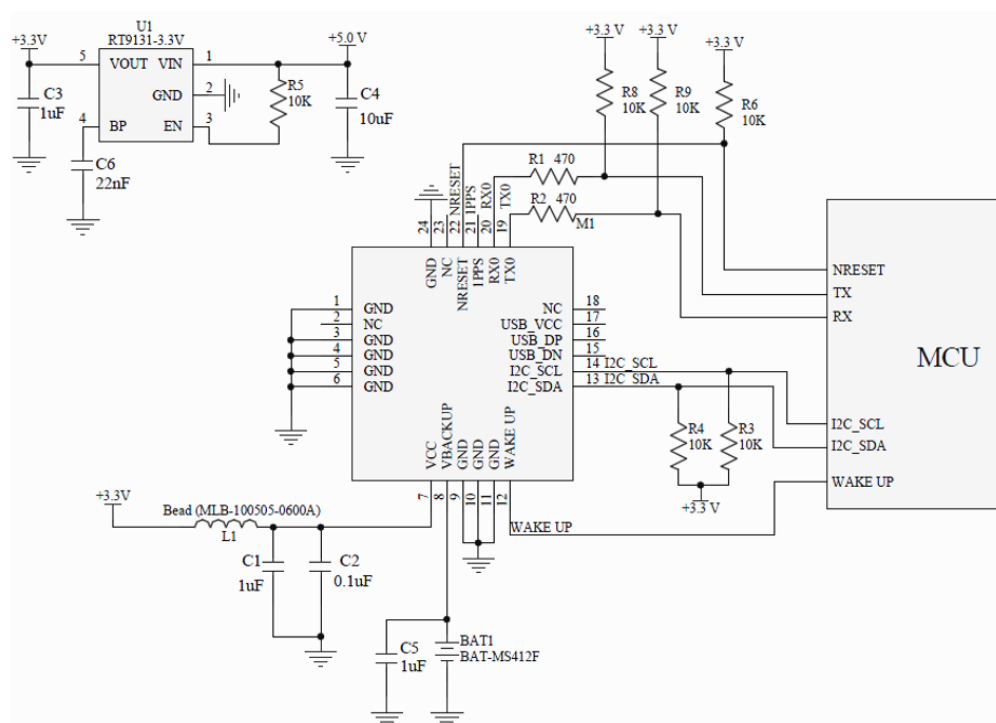

Figure 4-1: UART + I2C
1. UART0 + I2C (both interfaces can support NMEA output); refer to Figure 4-1